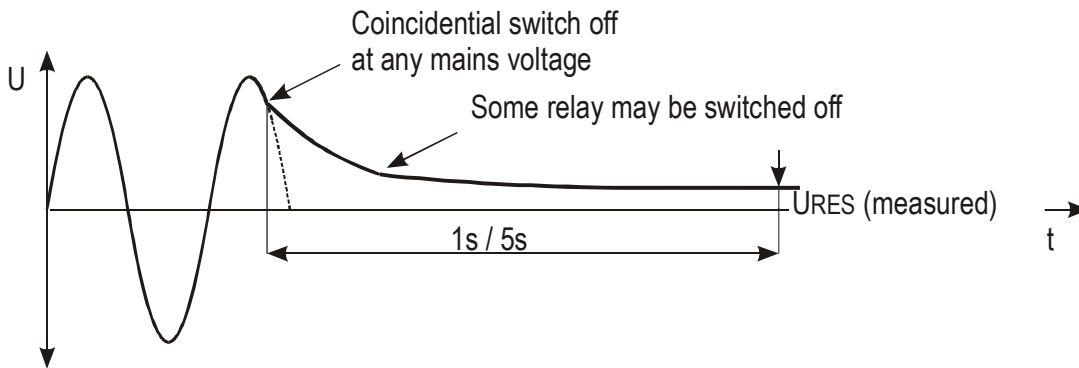

Figure 32: Discharge diagram in non-linear circumstances
- 8) Test result will be displayed in green colour equipped with green symbol and with beep-beep sound if it is lower than or equal to 60 VRMS (may be AC or DC, see the unit). If the result is higher than 60 VRMS, then it will be displayed in red colour equipped with red symbol and with longer beep sound. See the display outlook with test result on the figure 32.
- 7) Test result will be displayed in green colour equipped with green symbol and with beep-beep sound if it is lower than or equal to 60 VRMS (may be AC or DC, see the unit). If the result is higher than 60 VRMS, then it will be displayed in red colour equipped with red symbol and with longer beep sound. See the display outlook with test result on the figure 32.